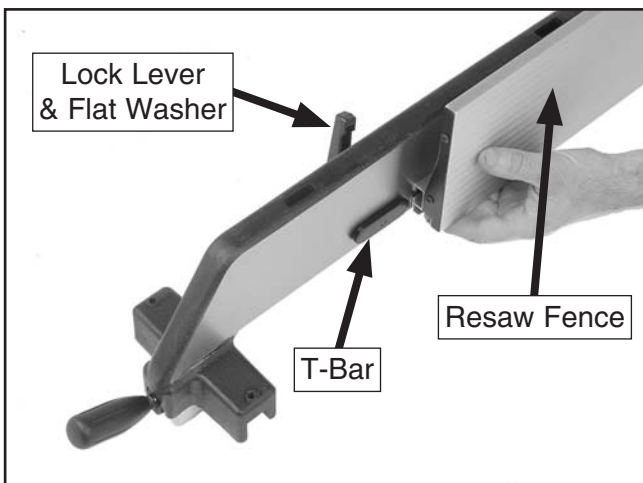

Figure 19. Resaw fence components.
1. Slide the 8mm flat washer onto the resaw fence lock lever, then insert the assembly through the standard fence (see **Figure 19**).
2. Thread the T-bar onto the lock lever a couple of turns, align the resaw fence slot and the T-bar, then slide the resaw fence fully onto the standard fence, as shown in **Figure 19**.